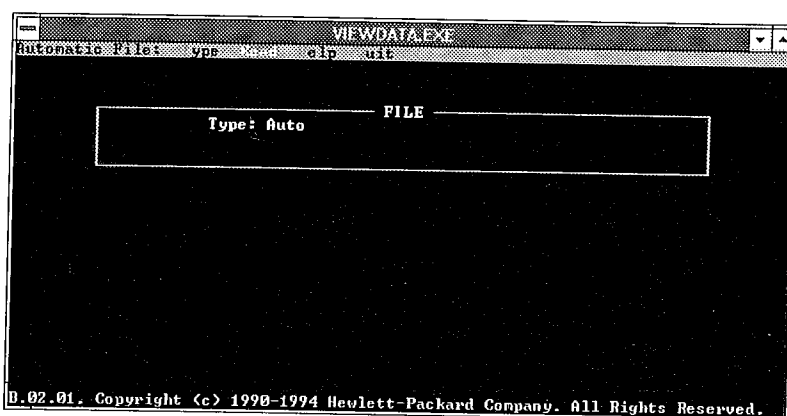

Fig. 8B File screen
Step 8. Specific data can now be displayed from a chosen file. To select a file, first press <Enter> to choose the "File" option. The screen shown in Fig. 8B then appears.